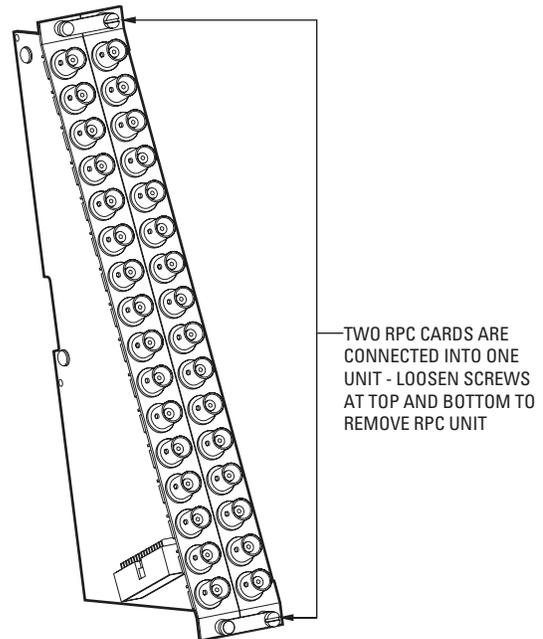

Figure 7. Remove a Rear Panel Video BNC Card (CM9765-RPC)
1. Loosen the screws at the top and bottom of the BNC card. Refer to Figure 7.